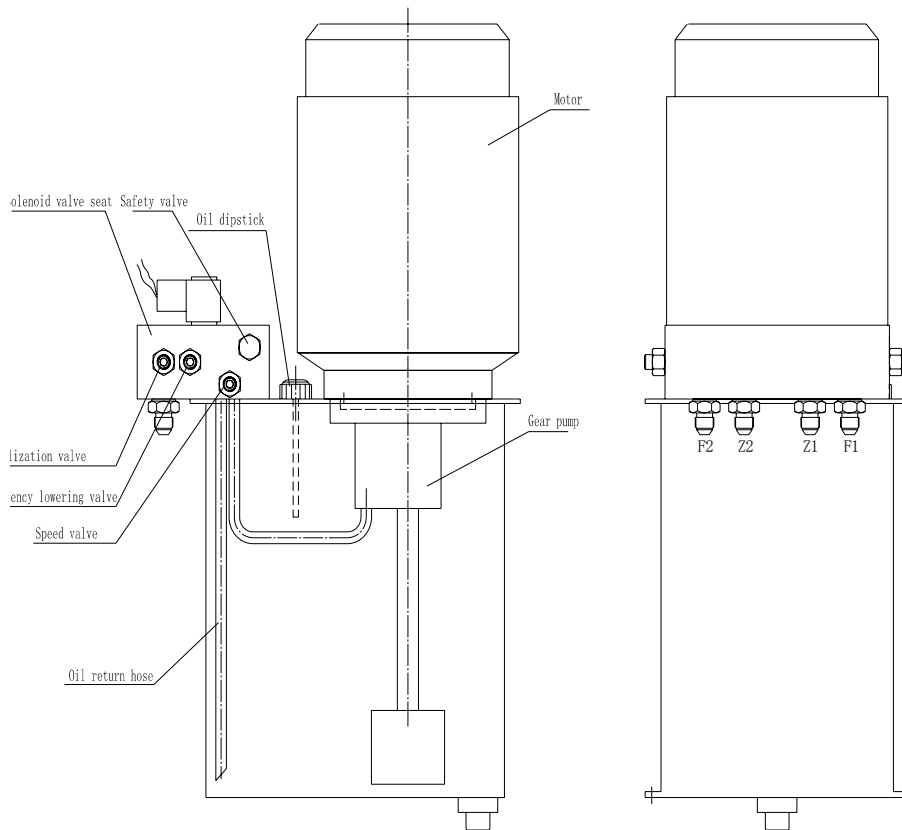

Fig.4
- Refer to Fig.4 and cylinder adjustment, adjust the platforms to the same level.